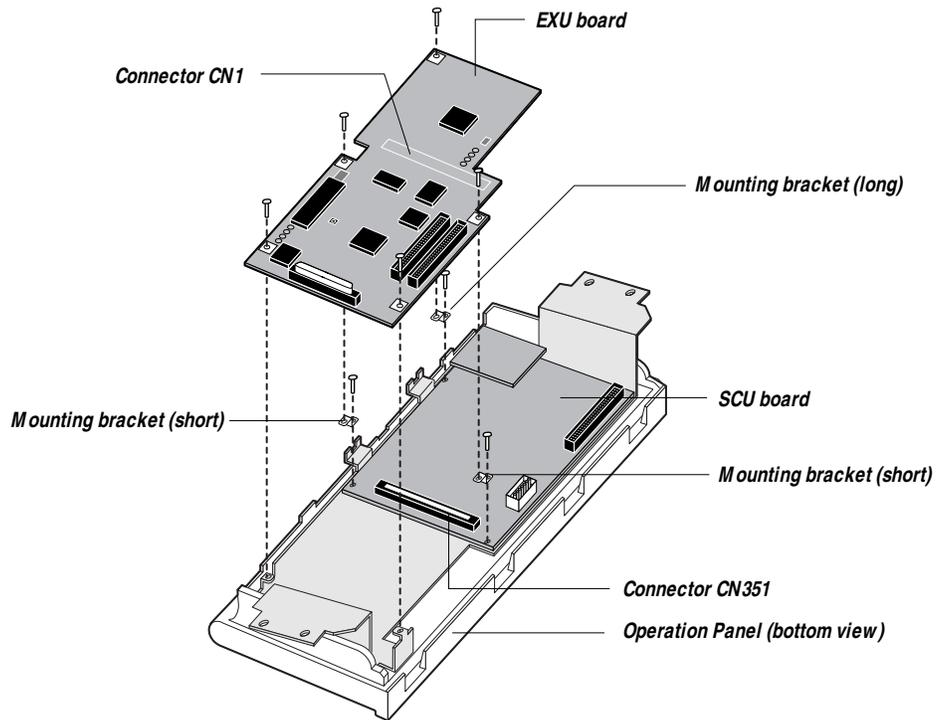

Figure 2-11 Installing the EXU and brackets
3. **Place the long mounting bracket as indicated in Figure 2-11 on page 2-13.**
This kit contains two short brackets and one long bracket that must be installed as indicated in Figure 2-11.
7. **Insert the five screws (M 3x5 Phillips pan-head) into the five mounting holes on the EXU board (see Figure 2-11 on page 2-13).**